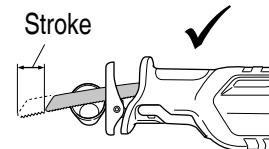
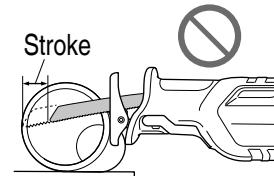
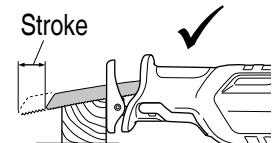
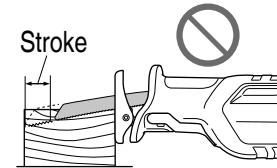

Fig. 13
Fig. 14
Fig. 15
Fig. 16
- Select a saw blade of the most appropriate length. Ideally, the length protruding from the base of the saw blade after subtracting the stroke quantity should be larger than the material (see Fig. 13 and Fig. 15). If you cut a large pipe, large block of wood, etc., that exceeds the cutting capacity of a blade; there is a risk that the blade may contact with the inner wall of the pipe, wood, etc., resulting in damage (Fig. 14, Fig. 16).